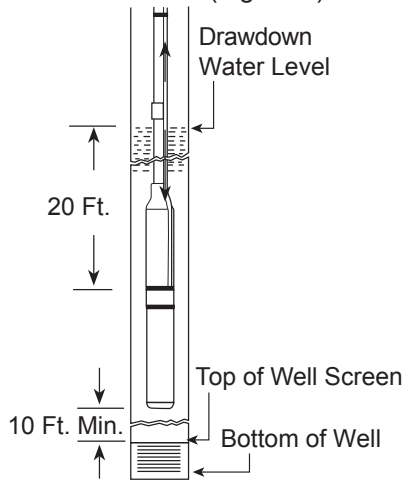

Figure 4
8. The complete pump and motor should be submerged at least twenty feet below the draw down level of the well, and the motor should be a minimum of ten feet off the bottom of the well (Figure 4).